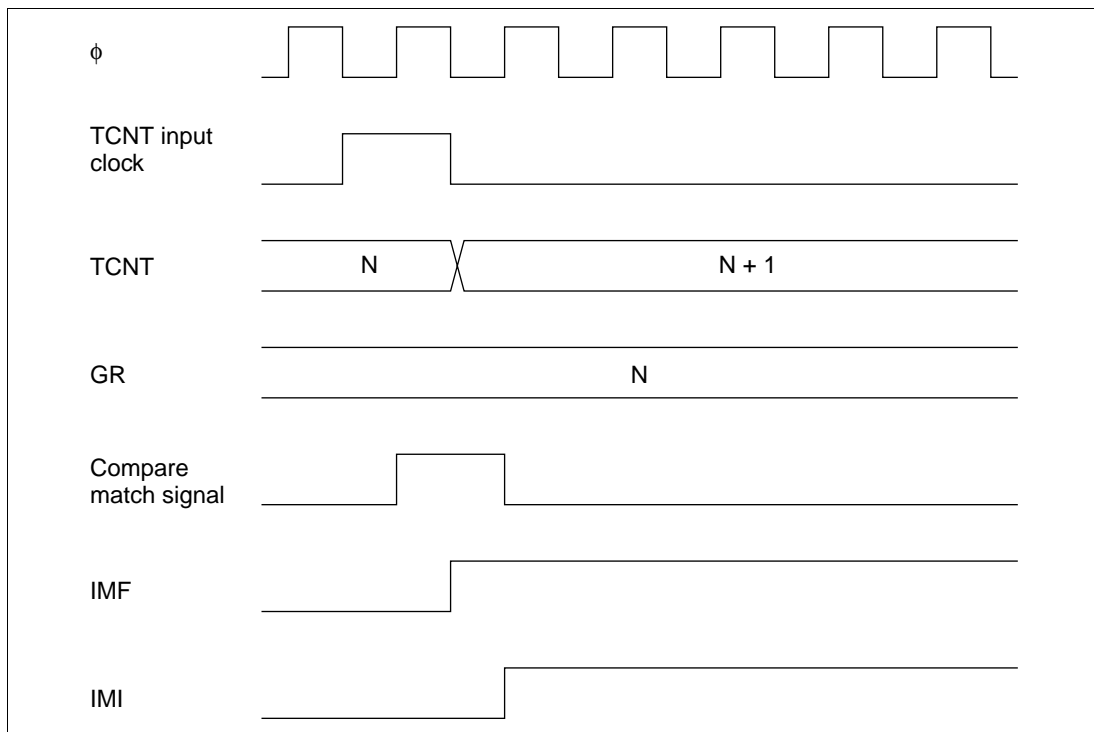

Figure 8.33 Timing of Setting of IMFA and IMFB by Compare Match
Timing of Setting of IMFA and IMFB at Compare Match: IMFA and IMFB are set to 1 by a compare match signal generated when TCNT matches a general register (GR). The compare match signal is generated in the last state in which the values match (when TCNT is updated from the matching count to the next count). Therefore, when TCNT matches a general register, the compare match signal is not generated until the next TCNT clock input. Figure 8.33 shows the timing of the setting of IMFA and IMFB.